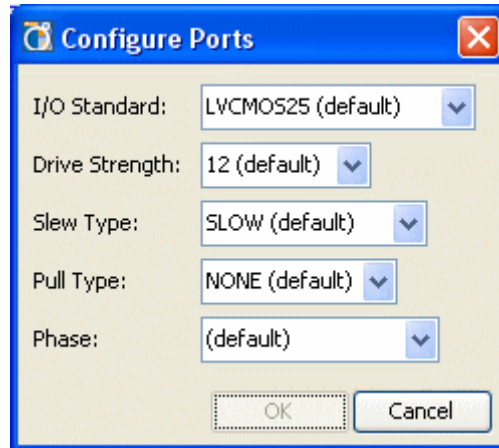

Figure 5-39: **Configure Ports dialog box**
2. In the I/O Ports view, Package Pins view, or SSN view, select the **Configure I/O Ports** popup menu command as shown in Figure 5-39, page 161.